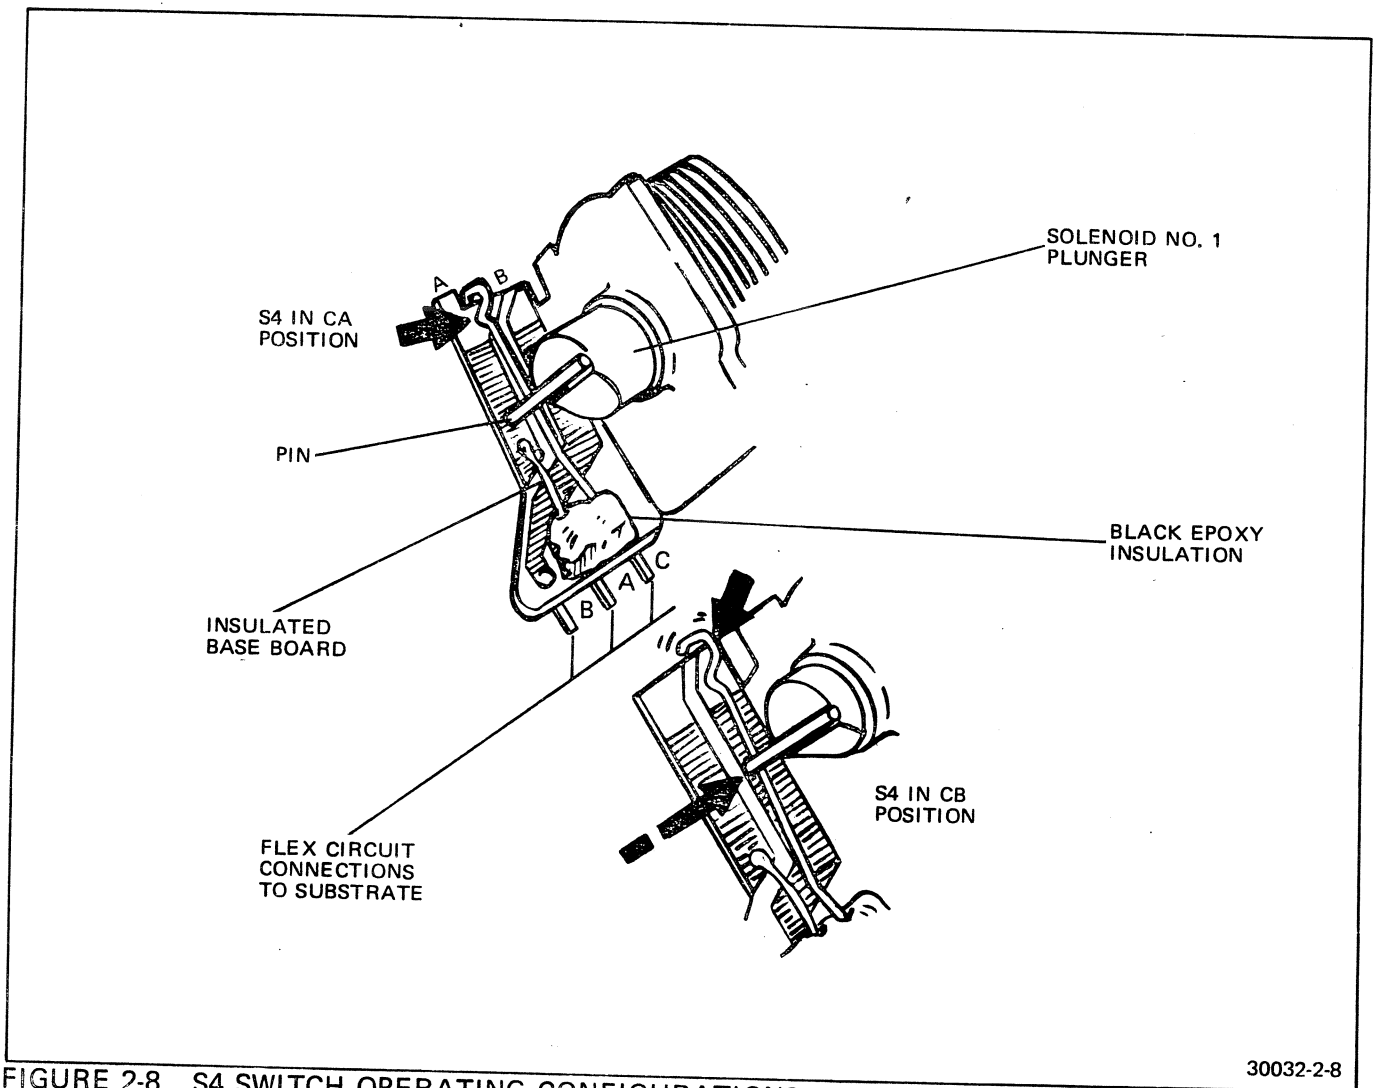

FIGURE 2-8 S4 SWITCH OPERATING CONFIGURATIONS
- d. Switch S4 is actuated by a pin on the plunger of solenoid no. 1, the shutter blade actuating solenoid (Figure 2-8).